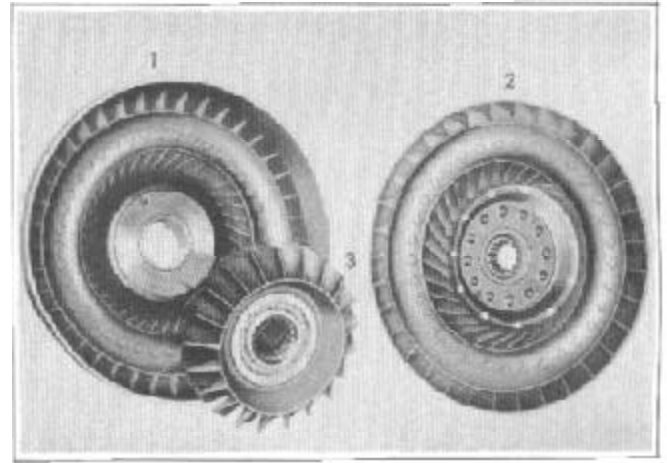
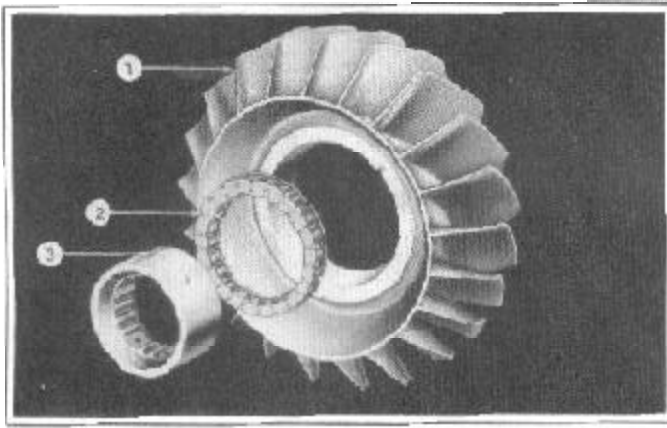

FIGURE 2
FIGURE 3
The torque converter contained in the Hudson Automatic Transmission is very similar to the theoretical unit just described and consists of a pump member (driving member) (1), Figure 2, driven by the engine, a turbine member (2) which is splined to the ring gear of the front planetary unit in the transmission, and a stator (3) which is fastened through a free wheel unit (2), Figure 3, to the transmission case. Being connected directly to the crankshaft, the pump member always rotates at engine speed. It receives the power output of the engine and transmits it to the turbine member (1) by means of the oil in the unit. These two units constitute a fluid coupling, and, while they are capable of transmitting torque, they are not able to provide torque